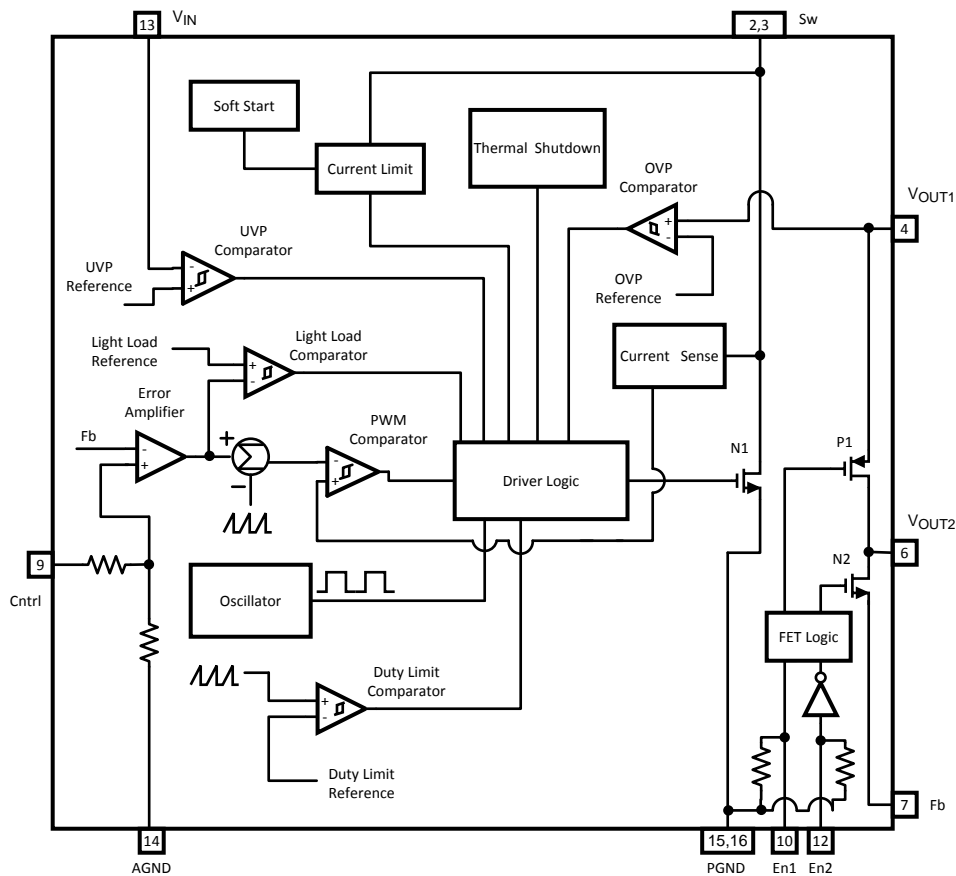

Figure 3. Block Diagram
**VOUT2 (Bump C1):** Drain connections of the internal PMOS and NMOS FET switches (Figure 3: P1 and N2). It is recommended to connect 100nF at VOUT2 if VOUT2 is not used for LM3503-35V & LM3503-44V versions.
Source connection of the internal PMOS FET switch (Figure 3: P1) and OVP sensing node. The output capacitor must be connected as close to the device as possible, between the VOUT1 pin and ground plane. Also connect the Schottky diode as close as possible to the VOUT1 pin to minimize trace resistance and EMI radiation.
Drain connection of the internal power NMOS FET switch (Figure 3: N1). Minimize the metal trace length and maximize the metal trace width connected to this pin to reduce EMI radiation and trace resistance.
**En2 (Bump A3):** Enable pin for the internal NMOS FET switch (Figure 3: N2) during device operation. When VEn2 is ≥ 1.4V, the internal NMOS FET switch turns off and the SUB display is turned on. The En2 pin has an internal pull down circuit, thus the internal NMOS FET switch is normally in the on state of operation with the SUB display turned off. When VEn2 is ≤ 0.3V, the internal NMOS FET switch turns on and the SUB display is turned off. If both VEn1 and VEn2 are ≤ 0.3V the LM3503 will shutdown. If VOUT2 is not used, En2 must be floating or grounded and En1 used to enable the device.
**En1 (Bump A2):** Enable pin for the internal PMOS FET switch (Figure 3: P1) during device operation. When VEn1 is ≤ 0.3V, the internal PMOS FET switch turns on and the MAIN display is turned off. When VEn1 is ≥ 1.4V, the internal PMOS FET switch turns off and the MAIN display is turned on. If both VEn1 and VEn2 are ≤ 0.3V the LM3503 will shutdown. The En1 pin has an internal pull down circuit, thus the internal PMOS FET switch is normally in the on state of operation with the MAIN display turned off. If VOUT2 is not used, En2 must be grounded and En1 use to enable the device.
The LM3503 utilizes an asynchronous current mode pulse-width-modulation (PWM) control scheme to regulate the feedback voltage over specified load conditions. The DC/DC converter behaves as a controlled current source for white LED applications. The operation can best be understood by referring to the block diagram in Figure 3 for the following operational explanation. At the start of each cycle, the oscillator sets the driver logic and turns on the internal NMOS power device, N1, conducting current through the inductor and reverse biasing the external diode. The white LED current is supplied by the output capacitor when the internal NMOS power device, N1, is turned on. The sum of the error amplifier's output voltage and an internal voltage ramp are compared with the sensed power NMOS, N1, switch voltage. Once these voltages are equal, the PWM comparator will then reset the driver logic, thus turning off the internal NMOS power device, N1, and forward biasing the external diode. The inductor current then flows through the diode to the white LED load and output capacitor. The inductor current recharges the output capacitor and supplies the current for the white LED load. The oscillator then sets the driver logic again repeating the process. The output voltage of the error amplifier controls the current through the inductor. This voltage will increase for larger loads and decrease for smaller loads limiting the peak current in the inductor and minimizing EMI radiation. The duty limit comparator is always operational, it prevents the internal NMOS power switch, N1, from being on for more than one oscillator cycle and conducting large amounts of current. The light load comparator allows the LM3503 to properly regulate light/small white LED load currents, where regulation becomes difficult for the LM3503's primary control loop. Under light load conditions, the LM3503 will enter into a pulse skipping pulse-frequency-mode (PFM) of operation where the operational frequency will vary with the load. As a result of PFM mode operation, the output voltage ripple magnitude will significantly increase.